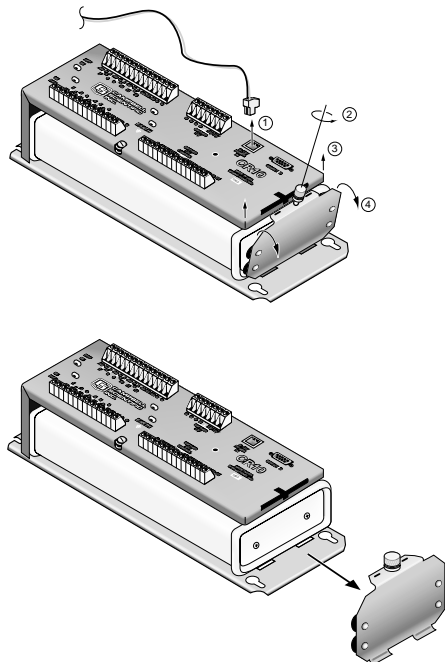

FIGURE 1. Removing Wiring Panel End Bracket
2. Disconnect the power supply from the CR10 (① on Figure 1).
3. With fingers, remove thumbscrew from the end bracket (② on Figure 1).
4. Separate the end bracket by removing the flanges from the slots on the baseplate (③ and ④ on Figure 1).